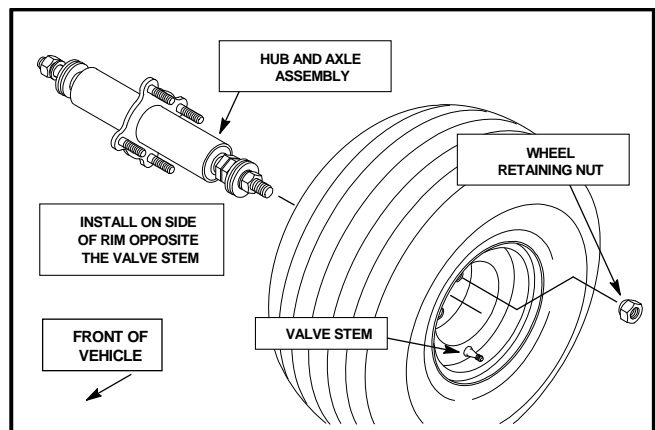

Figure 20
2. Mount the tire and rim to the axle and hub assembly. The axle and hub will be installed from the side of the rim opposite the valve stem (See Fig. 20). Insert the wheel mounting studs through the mounting holes and secure using four (4) wheel retaining nuts (Part No. 805860).